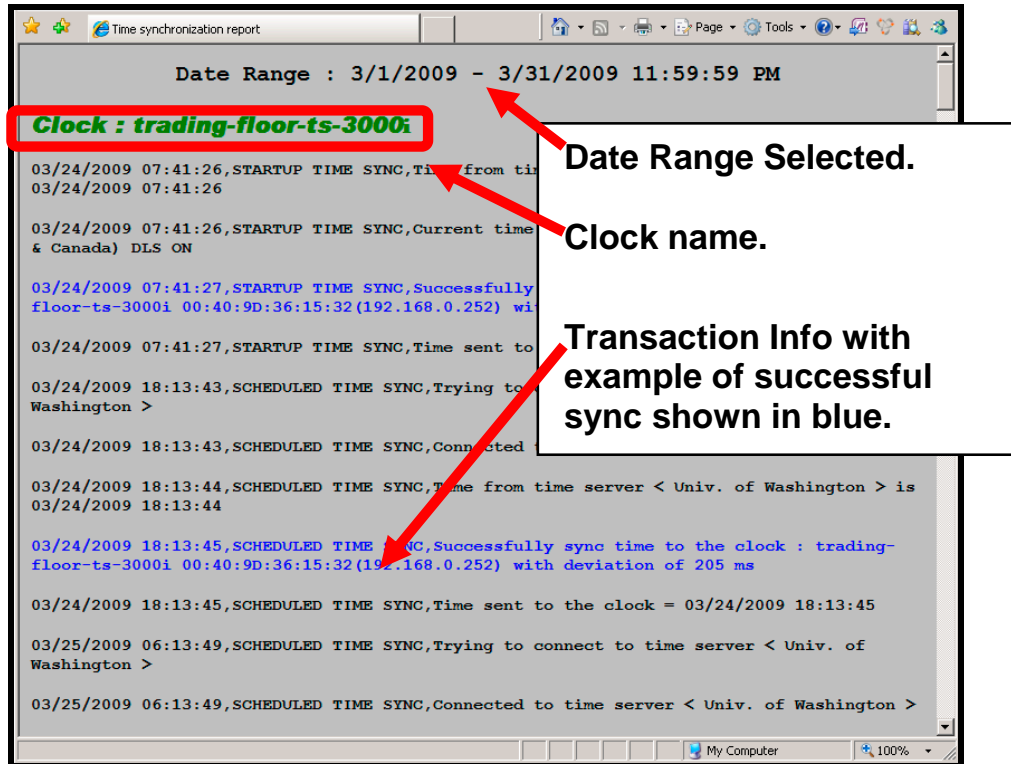

Figure 5-10: Example of Transaction Report Created with TS-3000i Utility
- Create a centralized transaction report for multiple TS-3000i clocks using all the transaction data or a selected data range. For example, create an HTML formatted report of transactions for March 1, 2009 through March 31, 2009 (see *Figure 5-10*).